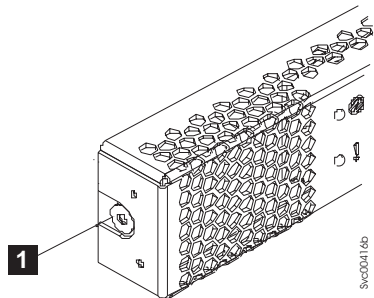

Figure 76. Left release button of a SAN Volume Controller 2145-CF8 service controller
6. Locate the recessed, blue service-controller release buttons on each side of the controller. See Figure 76 on page 77.